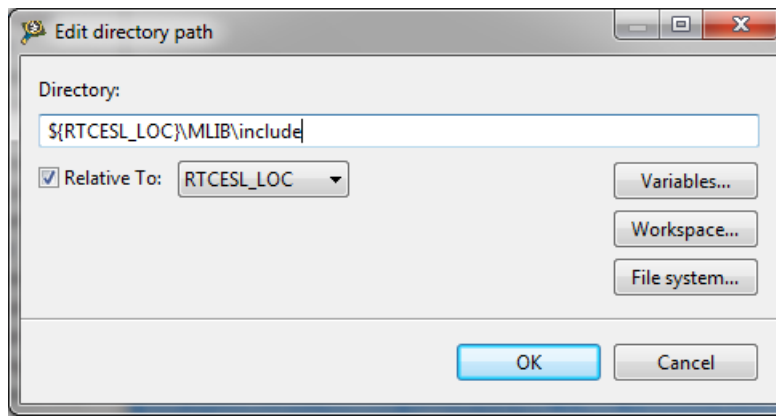

Figure 1-12. Library include path addition
12. Tick the box Relative To, and select RTCESL_LOC next to the box. See Figure 1-12. Click OK.